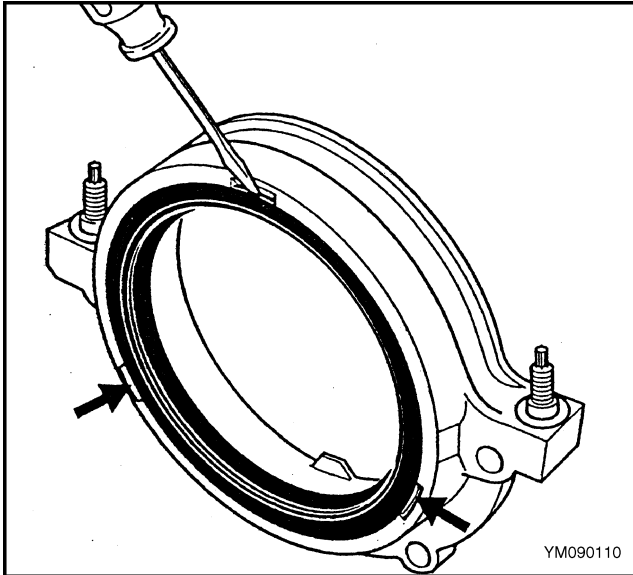

Figure 56. Oil Seal Removal
4. Remove the crankshaft rear oil seal from the crankshaft rear oil seal housing. See Figure 56.